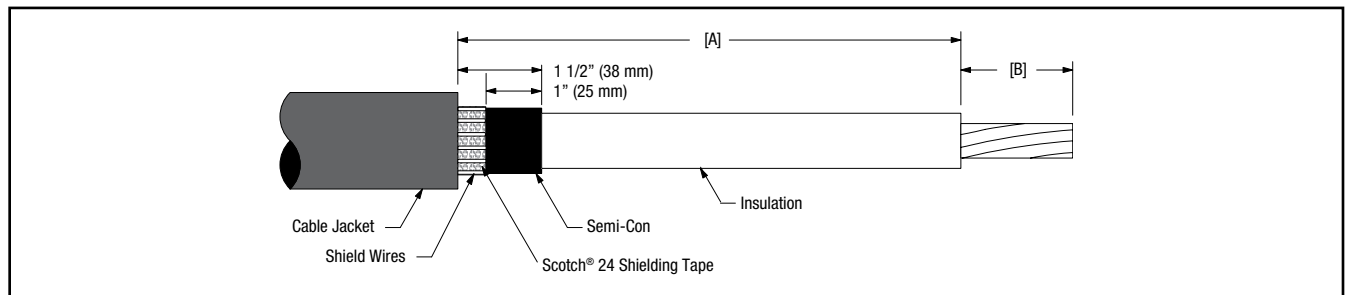

Figure 9
- 8.2 Remove jacket as shown in *Figure 9* and *Table 3*. **BE SURE TO ALLOW FOR DEPTH OF TERMINAL LUG DIMENSION [B].**
- 8.3 Wrap 2 full wraps of Scotch® Electrical Shielding Tape 24 over shielding wires at jacket edge. Cut off excess Scotch® 24 Shielding Tape (*Figure 9*).
- 8.4 Bend shielding wires back over Scotch® Electrical Shielding Tape 24 and cut off excess at jacket edge (*Figure 9*).
- 8.5 Remove cable semi-con as shown in *Figure 9*.